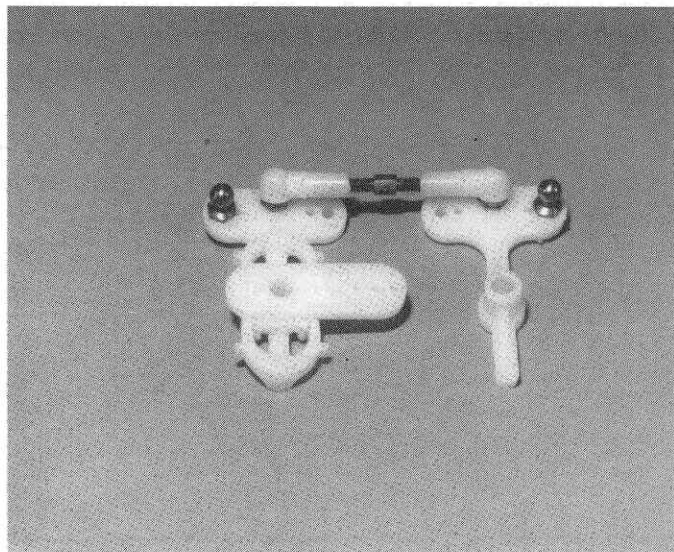

Fig. 24
- ☐ **Fig. 24** Take the short rod and pop it on the servo saver with a pliers, as shown.